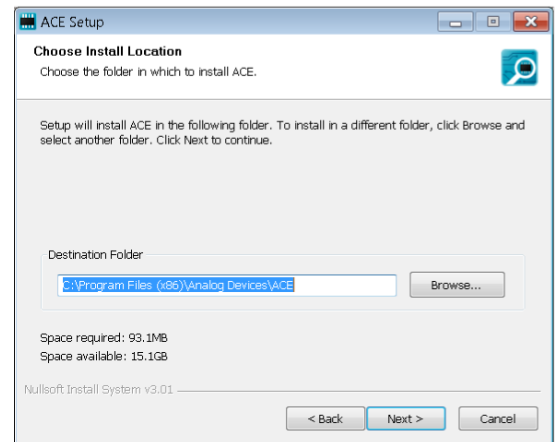

Figure 4. Choose Install Location
6. Choose an installation location and click **Next** (see Figure 4).